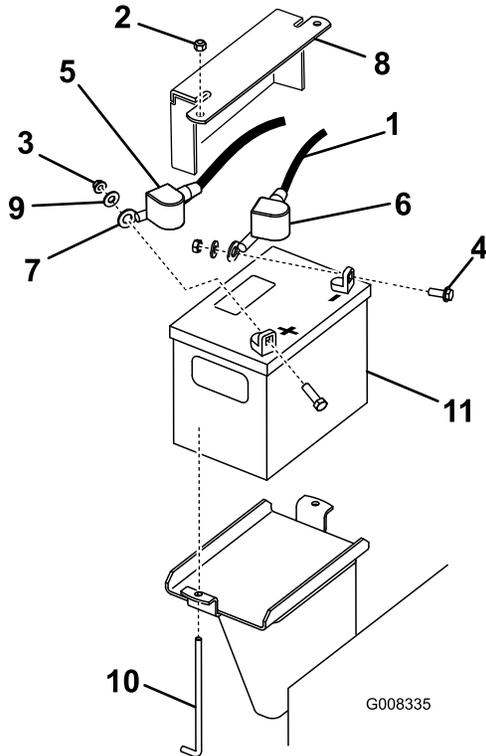

Figure 38
3. Lift the black rubber cover on the negative cable. Disconnect the negative battery cable from the negative (-) battery terminal (Figure 38).
4. Slide the red terminal boot off the positive (red) battery terminal, then remove the positive (red) battery cable (Figure 38).
5. Remove the hold down plate, J-bolts, and locknuts securing the battery (Figure 38) and remove the battery.
1. Using the fasteners previously removed, install the positive (red) battery cable to the positive (+) battery terminal (Figure 38).
3. Using the fasteners previously removed, install the negative (black) battery cable to the negative (-) battery terminal (Figure 38).
4. Secure the battery using the bar and wing nuts (Figure 38).